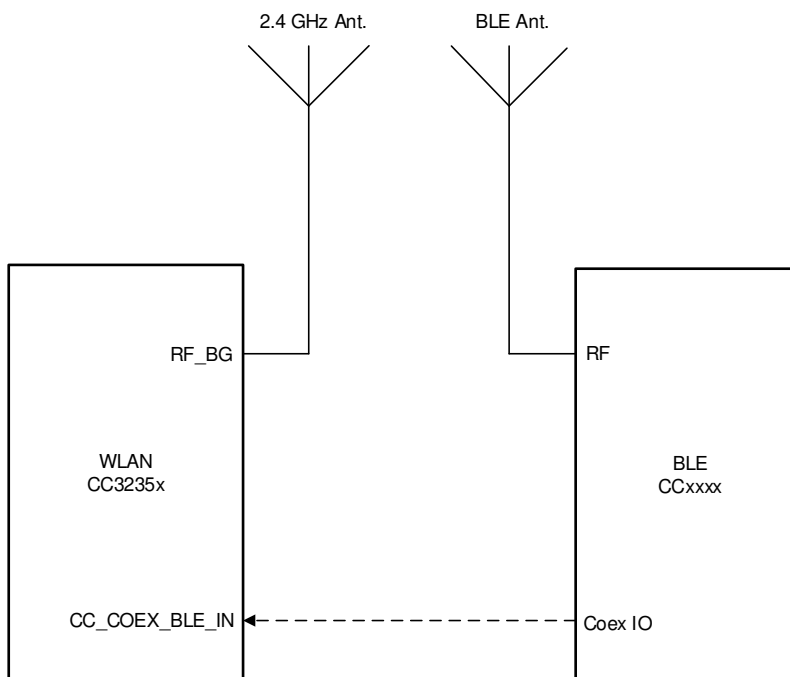

Figure 9-3. Dual-Antenna Coexistence Mode Block Diagram
- 2.4GHz Wi-Fi Band (see 図 9-3)
Figure 9-3 shows the dual antenna implementation of a complete Bluetooth® low energy and WLAN coexistence network with the WLAN operating on either a 2.4- or a 5GHz band. Note in this implementation no Coex switch is required and only a single GPIO from the BLE device to the CC3235x device is required.